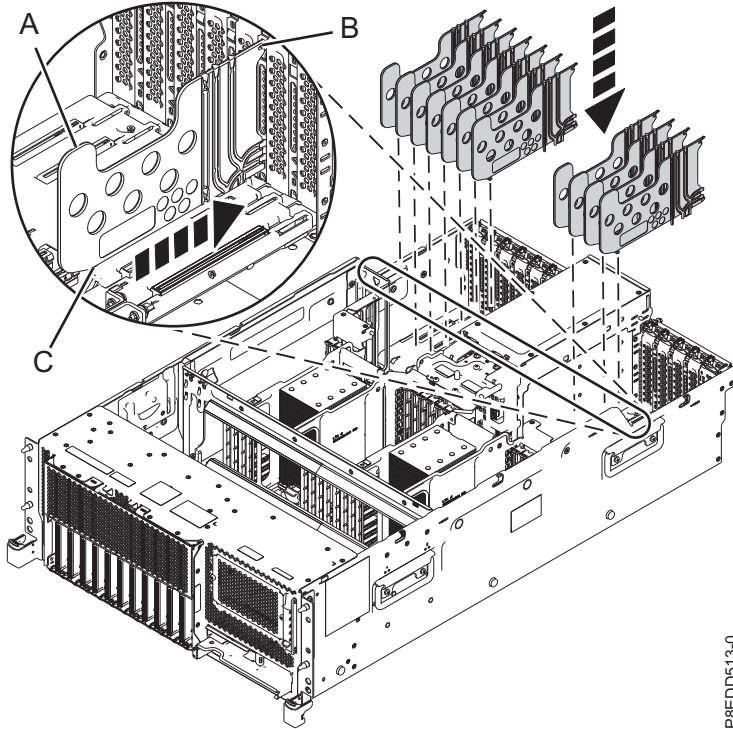

Figure 44. Installing the PCI adapter dividers
- b. Slide the divider toward the retention notches **(B)** as shown in Figure 44 on page 42.